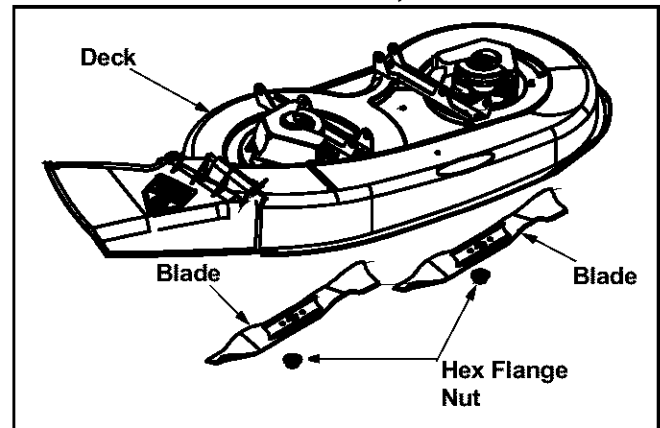

Figure 21
- Remove the hex flange nut which holds the blade to the blade spindle. See Figure 21.